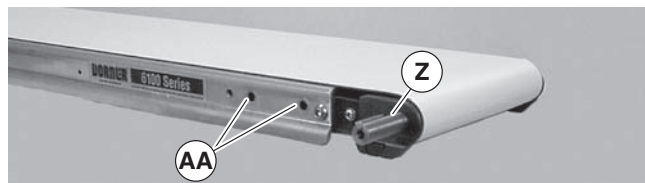

Figure 11
4. Locate drive output shaft (Figure 11, item Z) and remove two screws (AA).